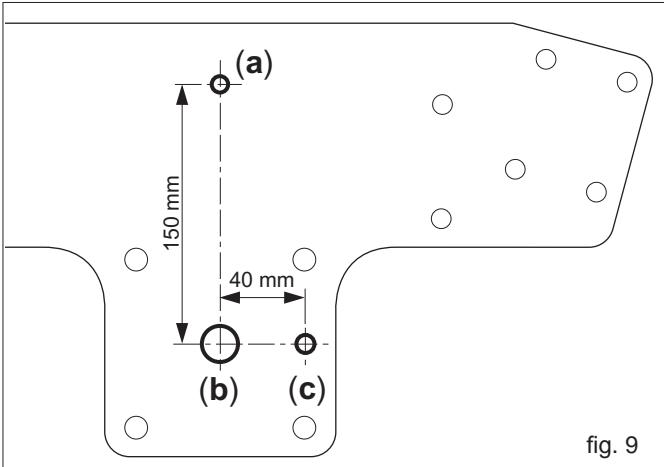

fig. 9
- 2) Modify the left roller support, following the instructions shown in Figure 9: